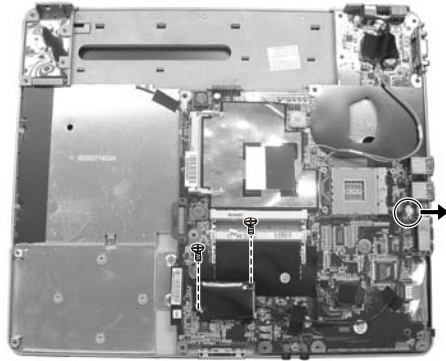

Figure 2-21 Remove the screws
9. To remove the modem card, loosen the screws and disconnect the cable. (Figure 2-21)